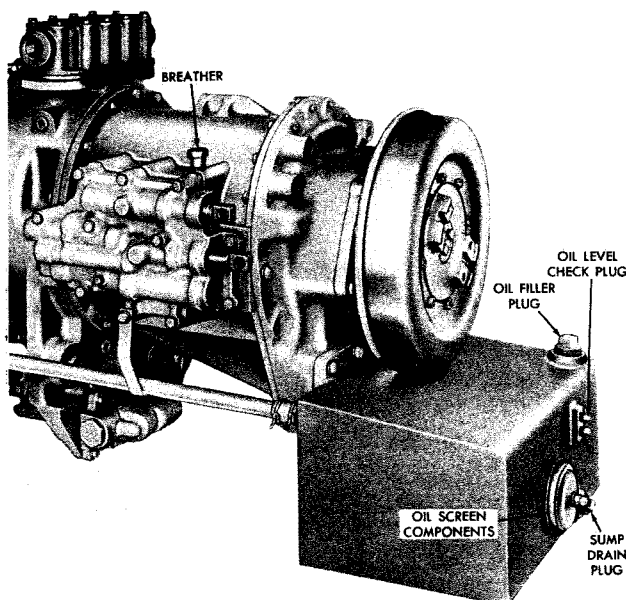

Fig. III-1. Model CRT 3531-3 transmission—partial left-rear view
b. Cleaning Breather. The prevalence of dirt and dust will determine the frequency at which the breather (fig. III-1) requires cleaning. Clean the area around the breather before removing it. Wash the breather thoroughly by agitating it in mineral spirits or gasoline. Dry it thoroughly, after cleaning, with compressed air. Always use a wrench of the proper size to remove or replace the breather — pliers, or a pipe wrench, will crush or damage it, and produce metal chips which may enter the transmission.
c. Cleaning Oil Screen. The transmission has a cylindrical oil screen located in the oil sump. The screen assembly is retained by a cover with a single bolt or nut and washer (fig. III-1). A new gasket should be used when replacing the cover after each cleaning. The flat washer used with the single central fastening should be replaced if it will not seal against oil leakage. Clean the screen assembly thoroughly. Examine the cover carefully for leakage after the transmission is refilled with oil. Use special care in tightening the bolt or nut which retains the cover. The recommended tightness is 8 to 10 pound feet. Excessive torque can pull the center stud loose from the sump.
a. Cold Check. The cold oil check (engine not running) is made only to determine if there is sufficient oil to permit safe starting of the engine. Where two oil level check plugs (fig. III-1) are provided on the oil sump, remove the top plug; where only one plug is provided, remove it. The oil level must be at or above the plug level before the engine is started.
(1) The hot oil check is made to determine if there is sufficient oil for working operation of the transmission. This check is made, while the engine is running, after 2
(3) On CRT 3531-3 transmissions, two oil level plugs are located at the rear of the sump (fig. III-1). Remove the upper plug. Under the conditions stated in (1), above, the oil level should be at the upper plug level. If the oil is below this level, add sufficient oil to bring it to the plug level. Drain excess oil until oil is at the upper plug level.